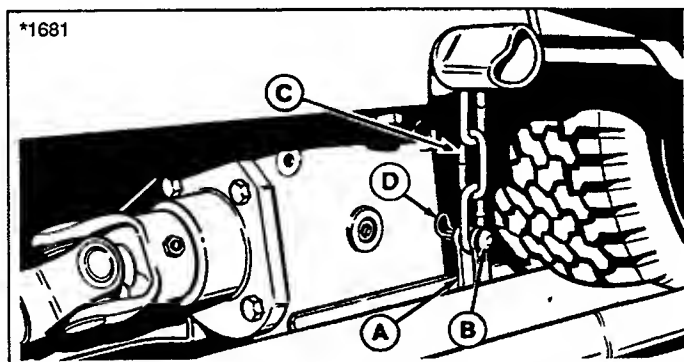

Figure 6. Lift Chains
4. Raise mower to mid-cut position. See figure 6. Hook the chains (C) to the clevis (A) on each side of the gear box. Insert pin (B) through clevis and chain, then install hairpin clip (D) in pin. Hairpin clip should be installed towards the inside as shown.